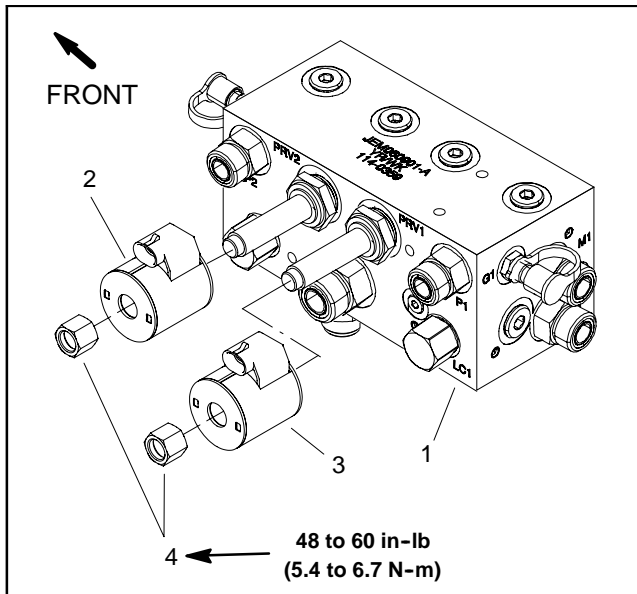
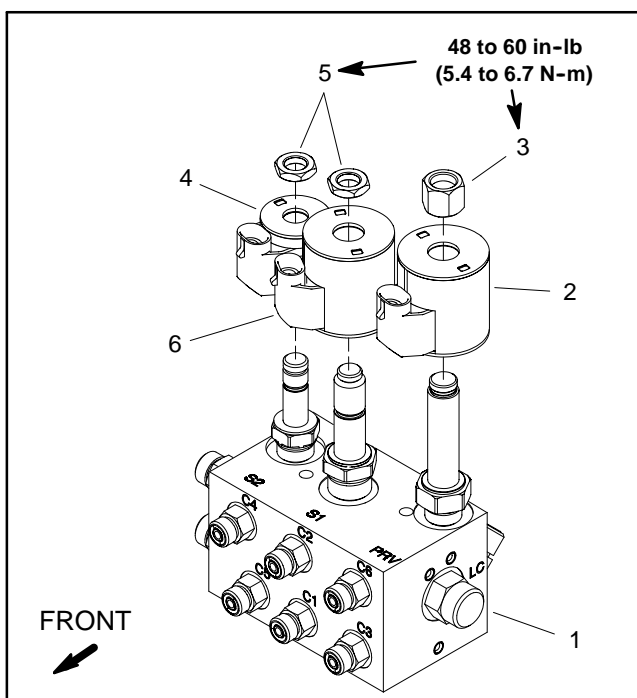

Figure 58
Figure 59
A hydraulic solenoid valve coil on the deck control manifold (Fig. 58) or lift control manifold (Fig. 59) can be replaced without opening the hydraulic system.
A. Tilt operator seat up to gain access to hydraulic deck control manifold. Refer to Figure 58 for solenoid coil locations on the deck control manifold.
B. The lift control manifold is attached to a frame bracket under the operator floor plate. Access to the lift control manifold can be obtained by removing the floor plate. Refer to Figure 59 for solenoid coil locations on the lift control manifold.